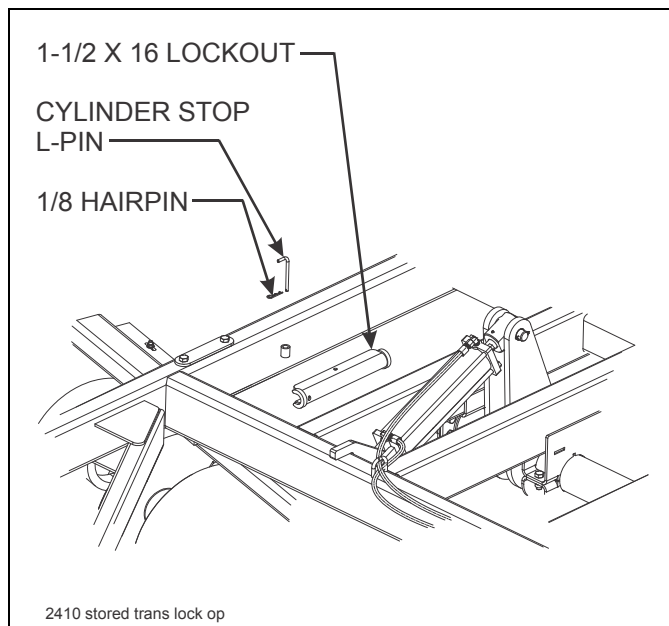

Figure 4-5: Stored Transport Locks
1. Raise the unit to take the weight off of the transport locks. Remove the transport locks from the lift cylinders. Store the transport locks on the retainers above the main lift (See Figure 4-5.)